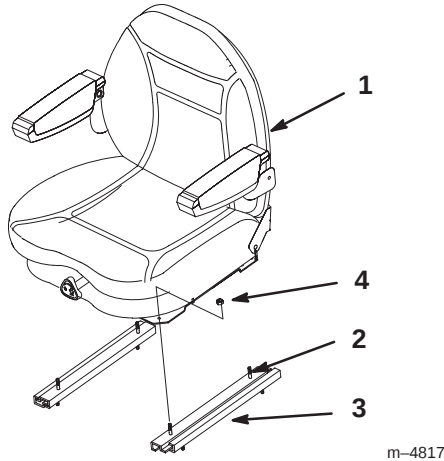

Figure 3
2. Position seat on the studs in the adjustable tracks (Fig. 3).
3. Install nuts onto studs (Fig. 3).